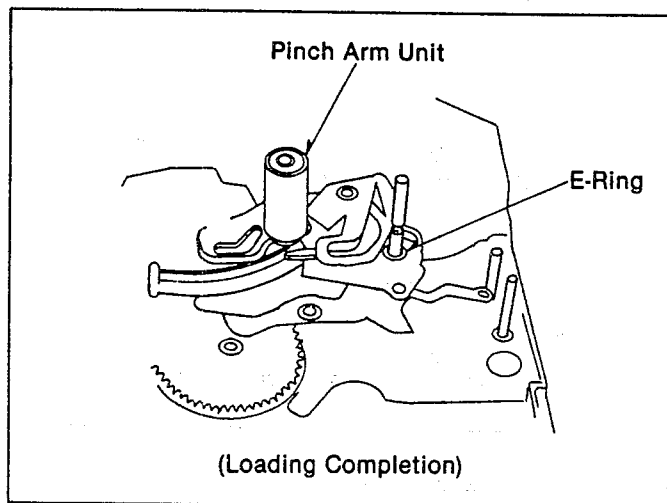

Fig. M20
- (3). Install the Pinch Arm Unit, and then insert the E-Ring as shown in Fig. M20 and M21.